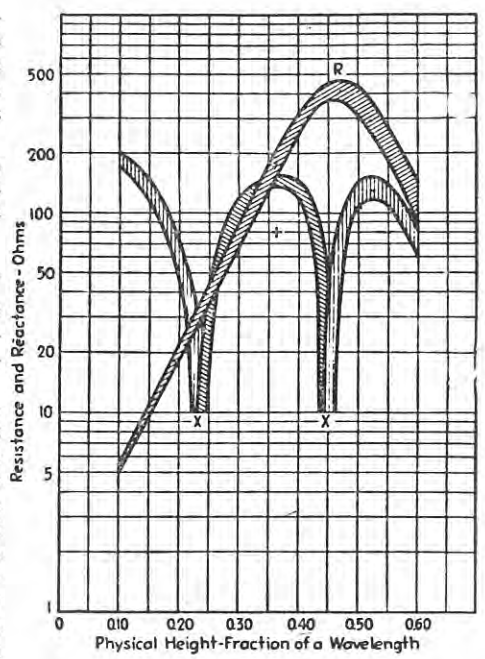
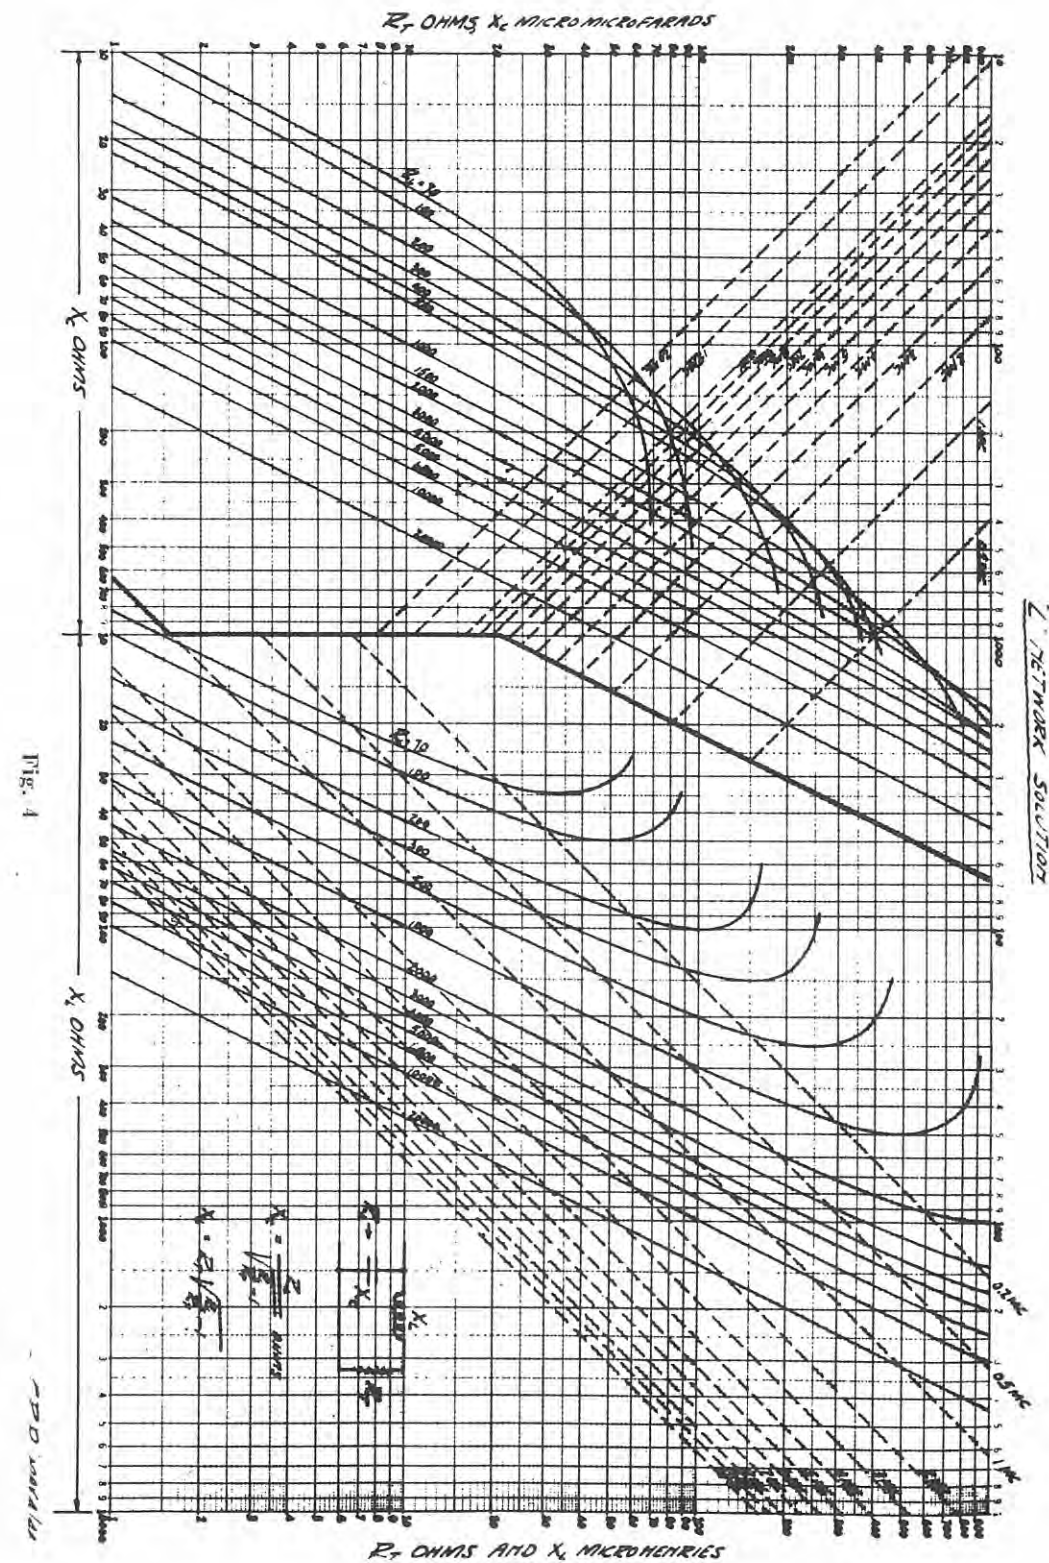

Fig. 3
FIG. 4
For quick reference, the variation of the base terminal impedance of a vertical or slightly sloped wire has been plotted against physical height in fractions of a wavelength in Fig. 3. The height of the antenna in wavelengths is found from
The curves in Fig. 3 are drawn as bands to represent average values measured on actual towers and vertical wires. The actual impedance of a particular antenna will be affected by its proximity to other objects, its base capacity and the ground conductivity, but Fig. 3 will give a value accurate enough for design purposes. Note that the points at which reactance is zero do not coincide exactly with the quarter-wave points. This is
As an example of the use of Fig. 3, suppose a 50-foot vertical pipe antenna is to be operated at 7200 Kc. What are its impedance characteristics?
From Fig. 3, its resistance would be approximately 180 ohms and its reactance about 140 ohms positive or inductive.
The complete solution for the L network is shown in Fig. 4. Knowing R_t and R_L , the two impedances to be matched, we find the value of X_c in ohms from the left-hand section, and hence its value in micromicrofarads. The value of L in microhenries is found from the right-hand section. Proceed as follows: Beginning at left-hand ordinate follow the value of R_t until it intersects the required sloping RL line. Read X_c in ohms on the abscissa or follow this vertical line until it intercepts the dotted frequency line required. Follow the horizontal line to the left and read capacity on the ordinate.
2. Calculate R_L from equation (4).
3. From Fig. 3 find antenna resistance, which is R_x in this case.
5. Find values of C in mmfds. and L in microhenries from Fig. 4.
When the antenna has both resistance and reactance, the tank coil has two functions to perform. Part of it, as determined from Fig. 4, resonates with the condenser C at the operating frequency. The other part cancels the reactance of the antenna. When the antenna reactance is negative, positive reactance of an equal value must be added to L to bring the entire tank, which includes the antenna, to resonance. When the antenna reactance is positive, less reactance, by an equal amount, is required in the tank coil, because the reactance in the antenna acts just as if it were in the coil itself.
2. Find physical length of antenna from equation (5).
3. From Fig. 3 find positive antenna reactance (X_a). Note that this reactance is in effect part of the total tank coil reactance required.
4. For given R_L and R_t find C in mmfds. and reactance of L in ohms for resonance (XL) from Fig. 4.
6. Find value of L in microhenries from Fig. 4 equivalent to reactance X_t .
3. From Fig. 3 find negative antenna reactance (X_a). Note that this reactance must be added to the reactance of tank coil, i.e., a larger tank coil will be required to cancel out the antenna reactance.
4. For given RL and R_t find C in mmfds. and reactance of L in ohms for resonance (XL) from Fig. 4.
Suppose we run through the design of an L network for use on a low-power portable transmitter for 3.5, 7, and 14 Mc bands. We choose for the longest practical antenna a single sloping wire 30 feet long. At 3.5 Mc this would be 0.107 wavelengths long by equation 5. From Fig. 3 its base resistance would be 5.2 ohms and its reactance—185 ohms. The total R_t in the circuit will be approximately $5.2 + 2 = 7$ ohms. If we assume an average load impedance of 2000 ohms for the amplifier (this will vary as explained heretofore) then from left hand section of Fig. 4, X_c is 119 ohms and $C = 390$ mmfds. X_t is found to be 120 ohms for resonance but in addition we must add 185 ohms of coil reactance to cancel the negative antenna reactance. Then $X_t = 120 + 185 = 305$ ohms or $L = 14$ microhenries.